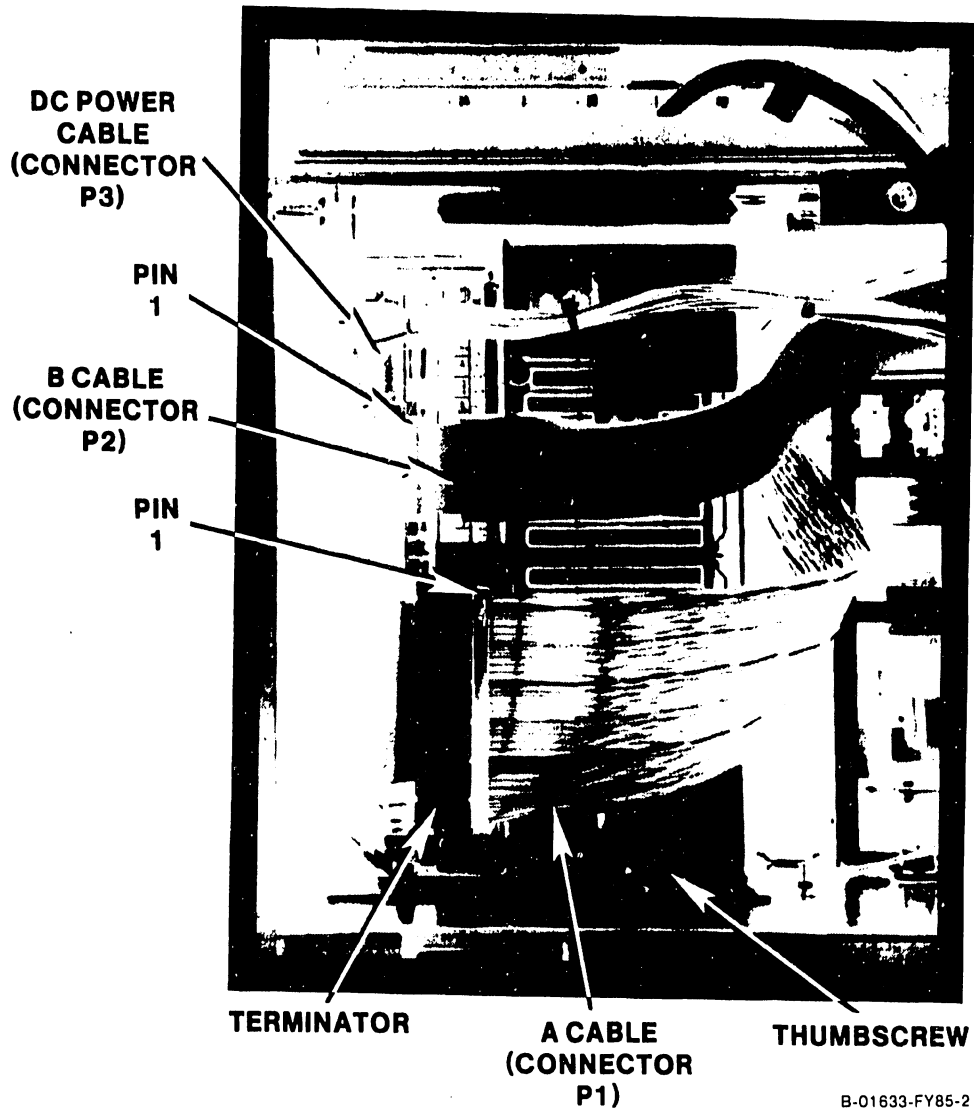

Figure 5-32. 76 Megabyte Disk Drive
3. Make sure the drive has stopped turning, then remove the A and B signal, and dc power cable are from the front of the drive. (Figure 5-32.) Note the orientation of these cables for reinstallation.